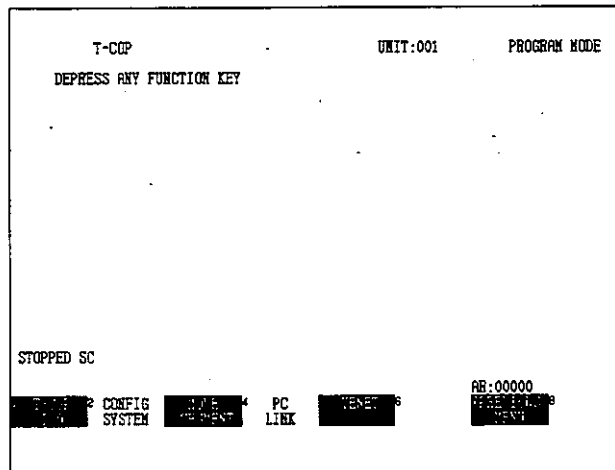
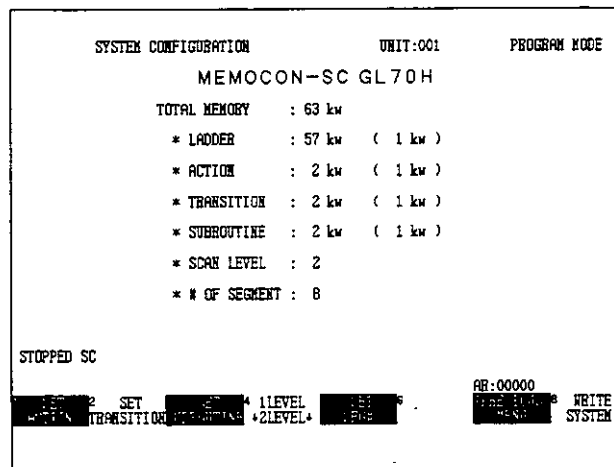

Figure 6.38
Figure 6.39
- (1) The Attach Operation is not required when the PLC is already online.
- (2) Selecting Previous Menu as shown in *Figure 6.39* returns the screen to *Figure 6.38*.
- (3) Selecting Previous Menu as shown in *Figure 6.38* returns the screen to the supervisory screen shown in *Figure 6.6*.
- (4) The sample screen shown is for a GL70H. With the GL60S and GL60H, the memory is 32 Kwords.
(5) The GL70H's 63-Kword memory is actually 64,512 words.
- 3) Select I/O Allocation. The screen shown in *Figure 6.38* will be displayed.
- (2) When changing the number of segments from n to n-1, it is essential that no network is stored in segment n.
- (3) After setting, data is not stored in GL60S, GL60H, or GL70H unless Write System is selected. Make sure Write System is selected.
- (4) If Previous Menu is selected at the System Configuration screen, the display will return to the Allocation Menu shown in *Figure 6.38*.